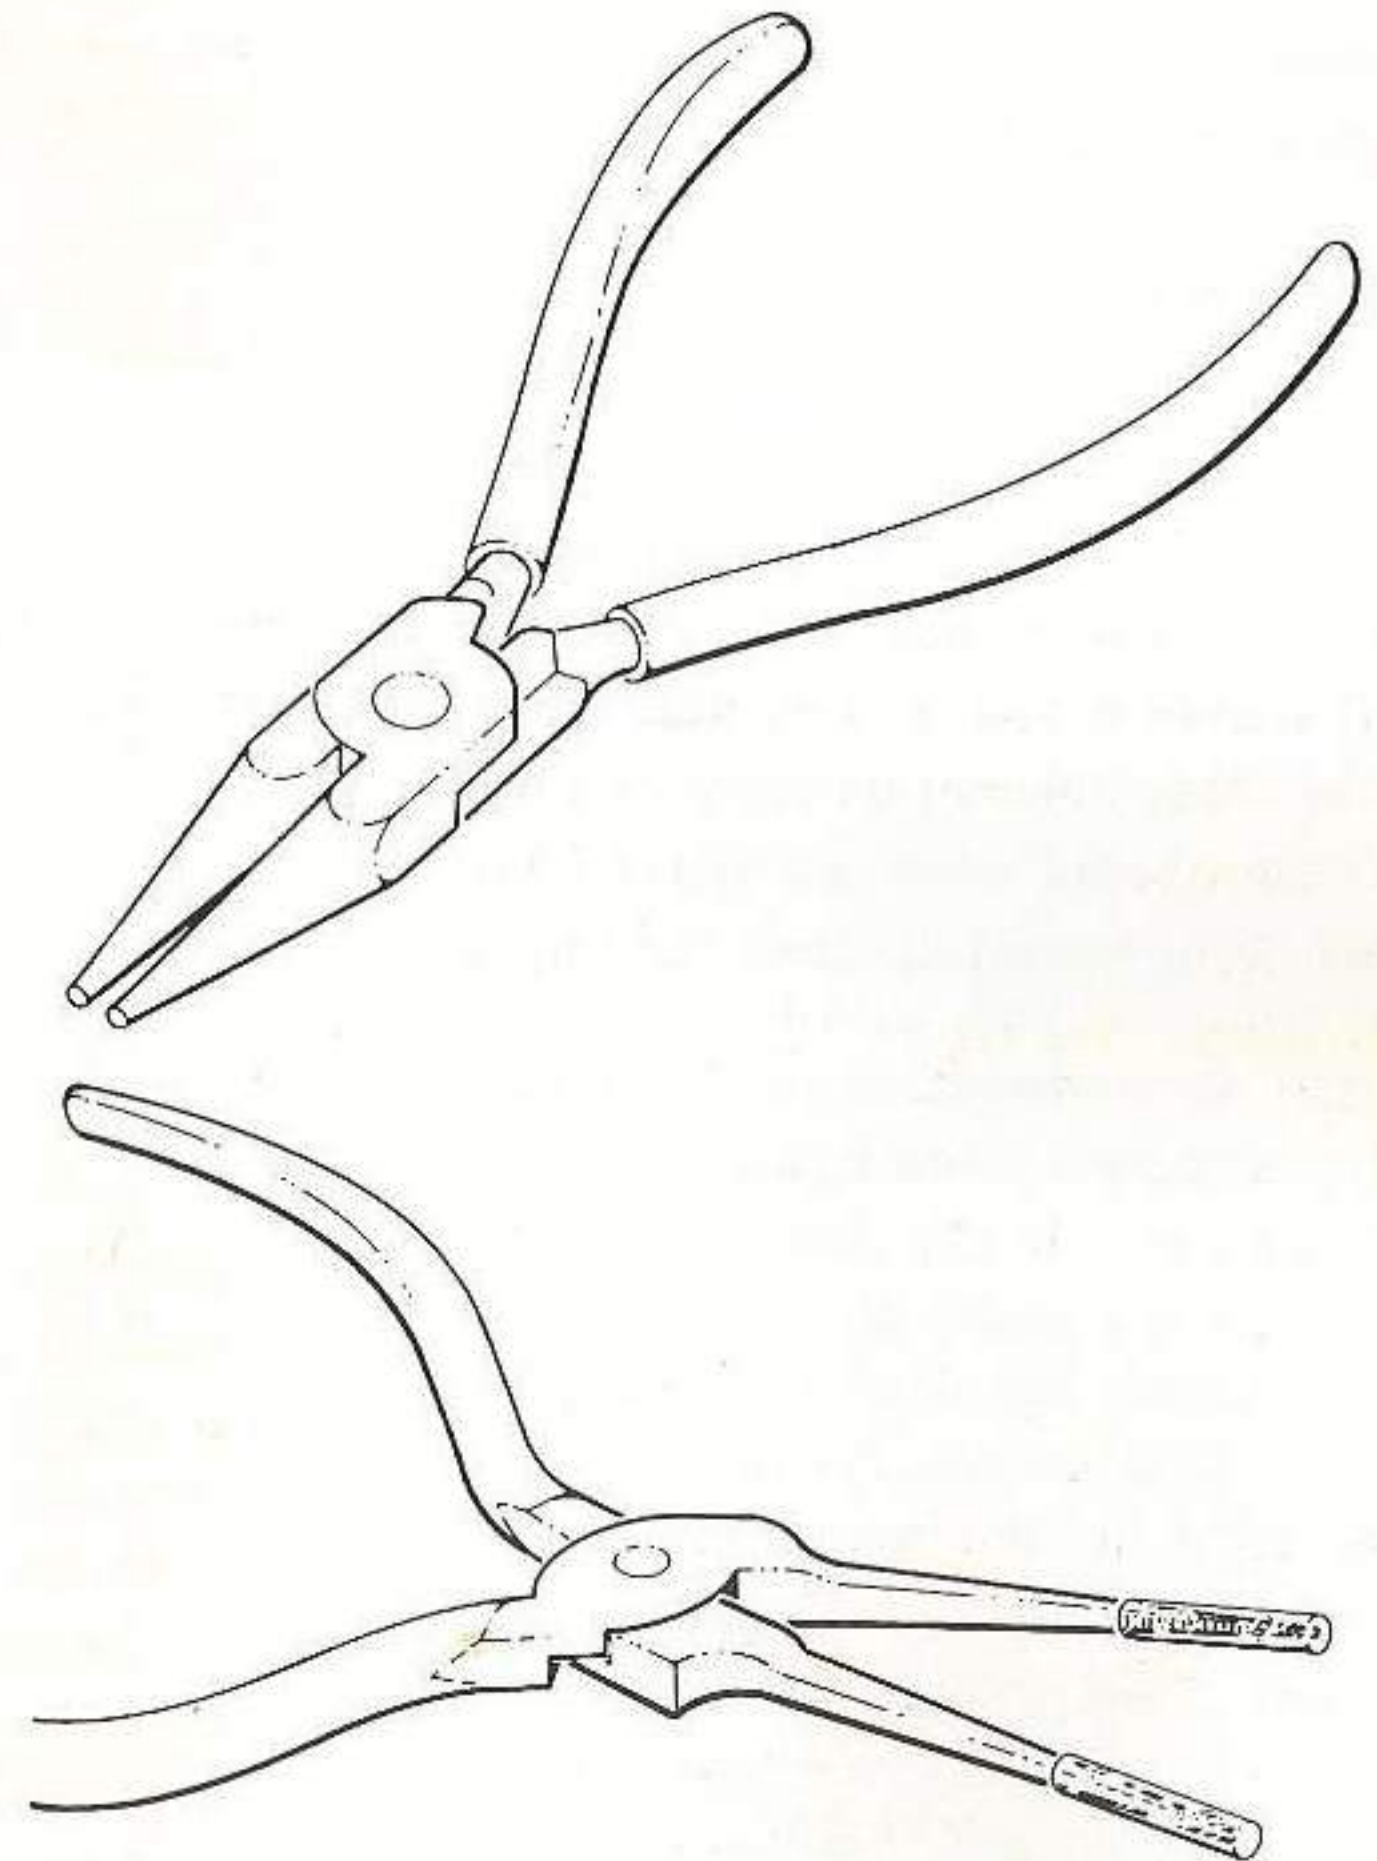

Figure 32. Proper Bending Tools
a. Bend component pigtails with a suitable wire bending tool such as wire-bending pliers or tweezers. Long nose pliers may be used if sharp edges are covered with tubing or plastic tape. See figure 32. Flattened, nicked, or damaged pigtails will be rejected.